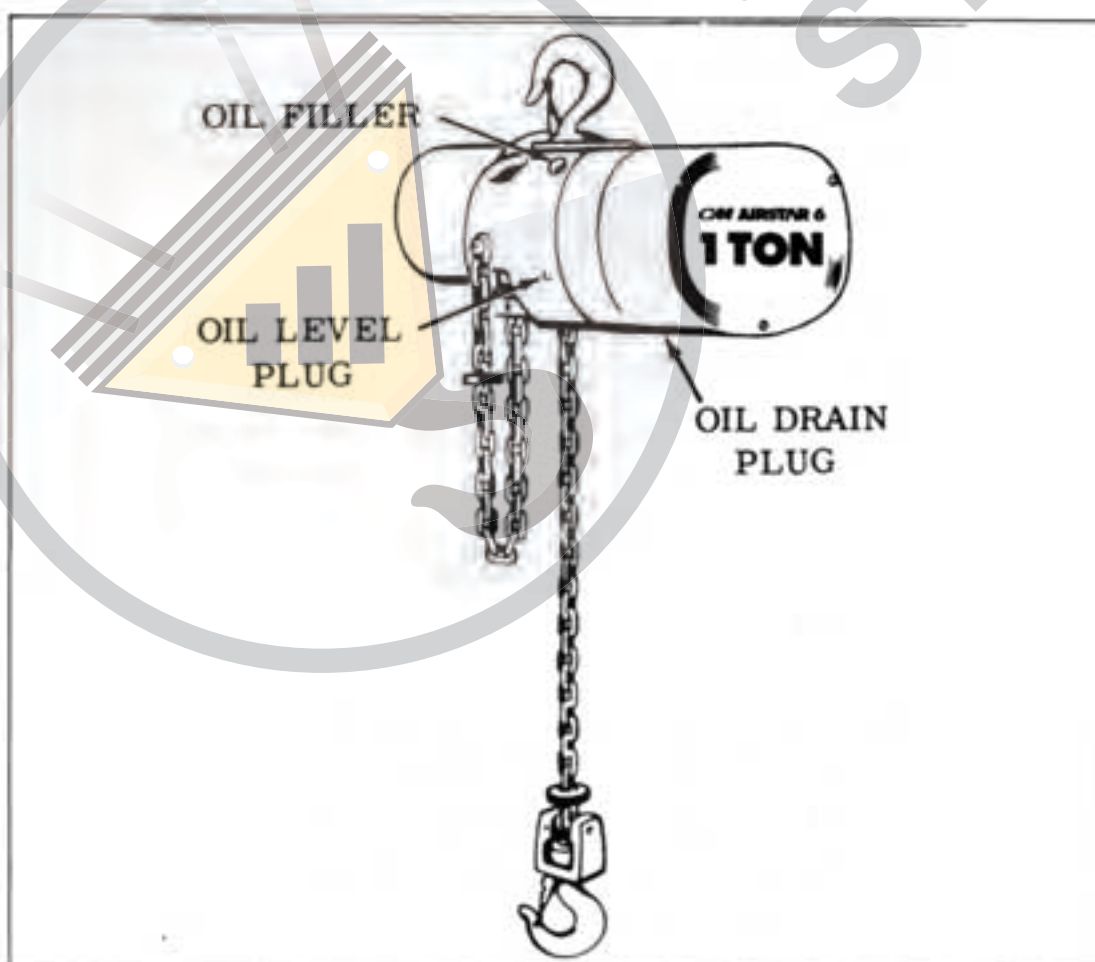

Figure 4-1. Location of Oil Filler and Plugs.
4-4. CHANGE GEARCASE OIL (Figure 4-1).
- (1) Check to see that bolts securing motor to frame are tight. Also check for any visible damage to motor, supply head or muffler, such as a cracked or dented housing. Replace damaged parts.
- (2) Check hoist frame for signs of visible damage. If frame shows evidence of fracture, the hoist should be disassembled and inspected for further signs of damage from possible overloading. Replace damaged parts. Also check condition of limit stop.
- e. Check Oil Level. Remove oil level plug (Figure 4-1). If oil level is not even with bottom of tapped hole, add Automatic Transmission Fluid, DEXRON® Type, to bring proper level.